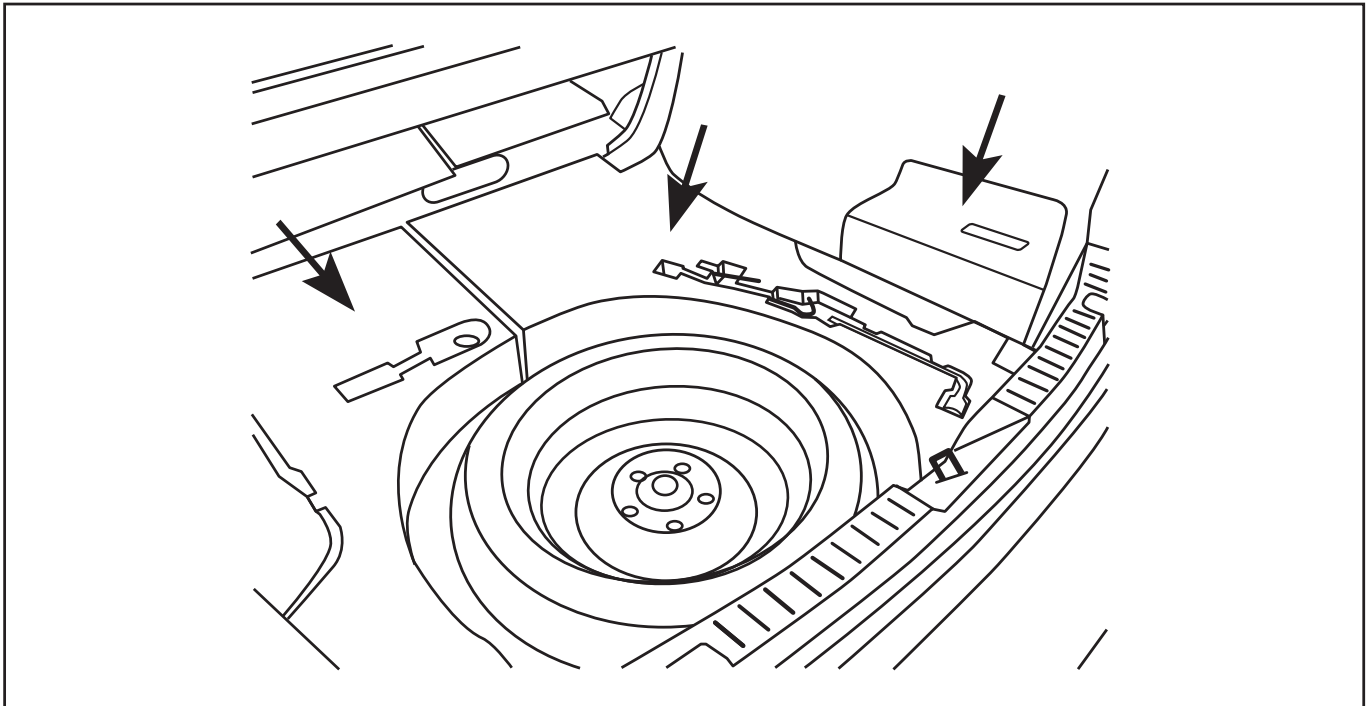

Fig. 18
19. Place the two foam pieces and plastic jack cover back into the trunk (Fig. 18).